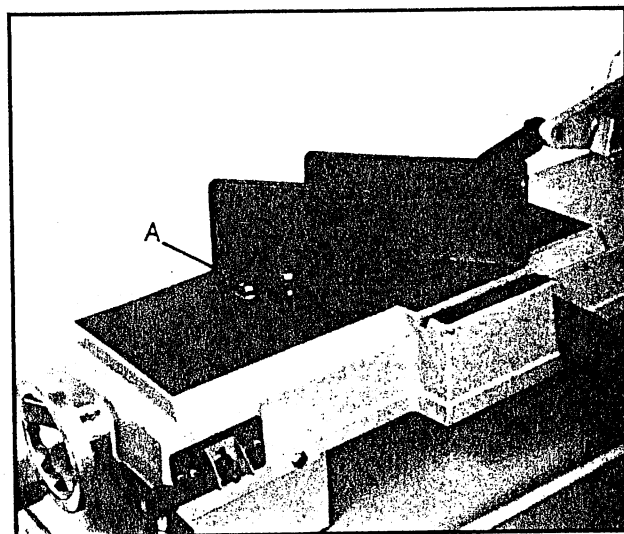

Fig. 6
4. Adjust movable vise parallel to fixed vise by loosening bolt (A, Fig. 6), adjusting to parallel, and tightening bolt.